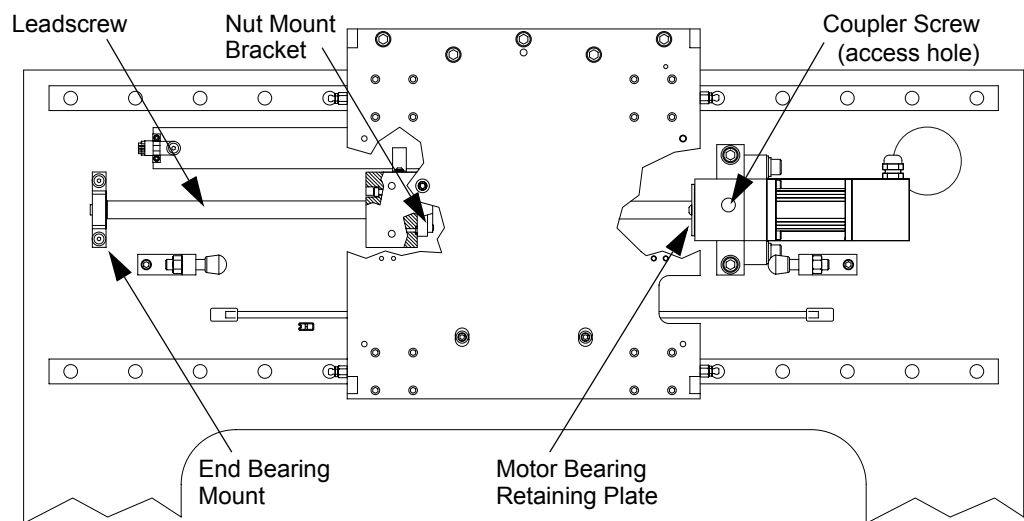

Figure 9-15 X-Axis Leadscrew Assembly
5. Turn the leadscrew until the coupler screw is visible through the access hole in the motor mount; see Figure 9-15. Using a 7/64-inch Allen wrench, loosen (do not remove) the coupler screw.